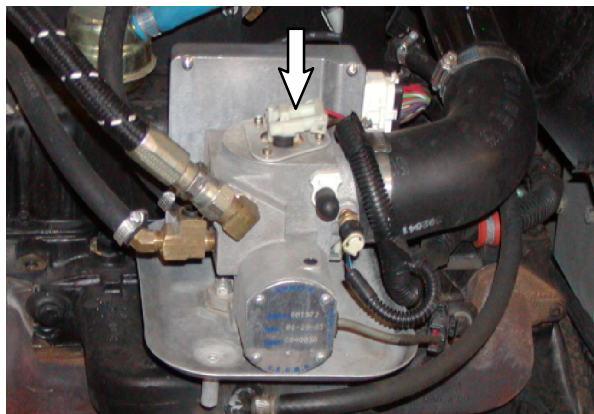

FIG. 1
4. Disconnect the LPG injector harness connector from the injector assembly. Refer to Fig. 1.
16. Connect the LPG injector harness connector to the injector assembly. Refer to Fig. 1.